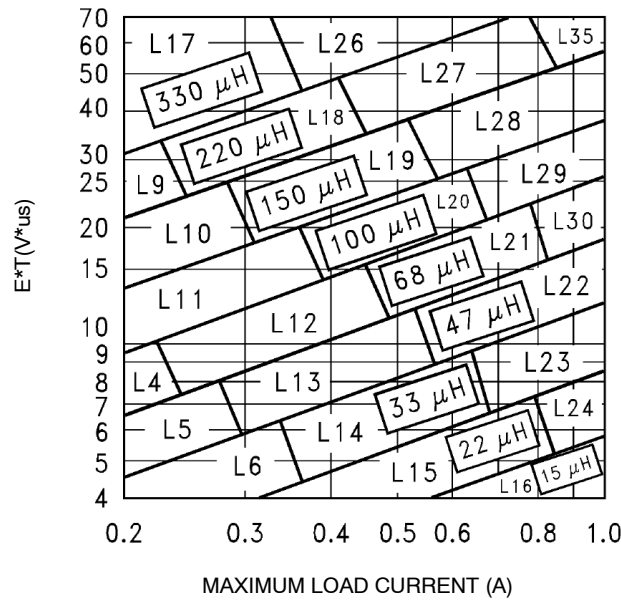

Figure 19. Inductor Value Selection Guides (For Continuous Mode Operation)
<p>4. Inductor Selection (L1)</p> <p>A. Use the following formula to calculate the inductor Volt x microsecond [V x μs] constant:</p> $E \times T = (V_{IN} - V_{OUT} - V_{SAT}) \times \frac{V_{OUT} + V_D}{V_{IN} - V_{SAT} + V_D} \times \frac{1000}{150 \text{ kHz}} (V \times \mu s)$ <p>B. Match the calculated E x T value with the corresponding number on the vertical axis of the Inductor Value Selection Guide shown in Figure 19. This E x T constant is a measure of the energy handling capability of an inductor and is dependent upon the type of core, the core area, the number of turns, and the duty cycle.</p> <p>C. Next step is to identify the inductance region intersected by the E x T value and the maximum load current value on the horizontal axis shown in Figure 19.</p> <p>D. Select an appropriate inductor from Table 3. The inductor chosen must be rated for a switching frequency of 150 kHz and for a current rating of 1.15 x I_{Load}. The inductor current rating can also be determined by calculating the inductor peak current:</p> $I_{p(max)} = I_{Load(max)} + \frac{(V_{in} - V_{out}) t_{on}}{2L}$ <p>where t_{on} is the “on” time of the power switch and</p> $t_{on} = \frac{V_{out}}{V_{in}} \times \frac{1.0}{f_{osc}}$	<p>4. Inductor Selection (L1)</p> <p>A. Calculate E x T [V x μs] constant:</p> $E \times T = (12 - 5 - 1.0) \times \frac{5 + 0.5}{12 - 1 + 0.5} \times \frac{1000}{150 \text{ kHz}} (V \times \mu s)$ $E \times T = (6) \times \frac{5.5}{11.5} \times 6.7 (V \times \mu s)$ <p>B. E x T = 19.2 [V x μs]</p> <p>C. I_{Load(max)} = 1.0 A Inductance Region = L30</p> <p>D. Proper inductor value = 68 μH Choose the inductor from Table 3.</p>
To simplify the inductor selection process, an inductor selection guide for the LM2595 regulator was added to this data sheet (Figure 19). This guide assumes that the regulator is operating in the continuous mode, and selects an inductor that will allow a peak-to-peak inductor ripple current to be a certain percentage of the maximum design load current. This percentage is allowed to change as different design load currents are selected. For light loads (less than approximately 300 mA) it may be desirable to operate the regulator in the discontinuous mode, because the inductor value and size can be kept relatively low. Consequently, the percentage of inductor peak-to-peak current increases. This discontinuous mode of operation is perfectly acceptable for this type of switching converter. Any buck regulator will be forced to enter discontinuous mode if the load current is light enough.